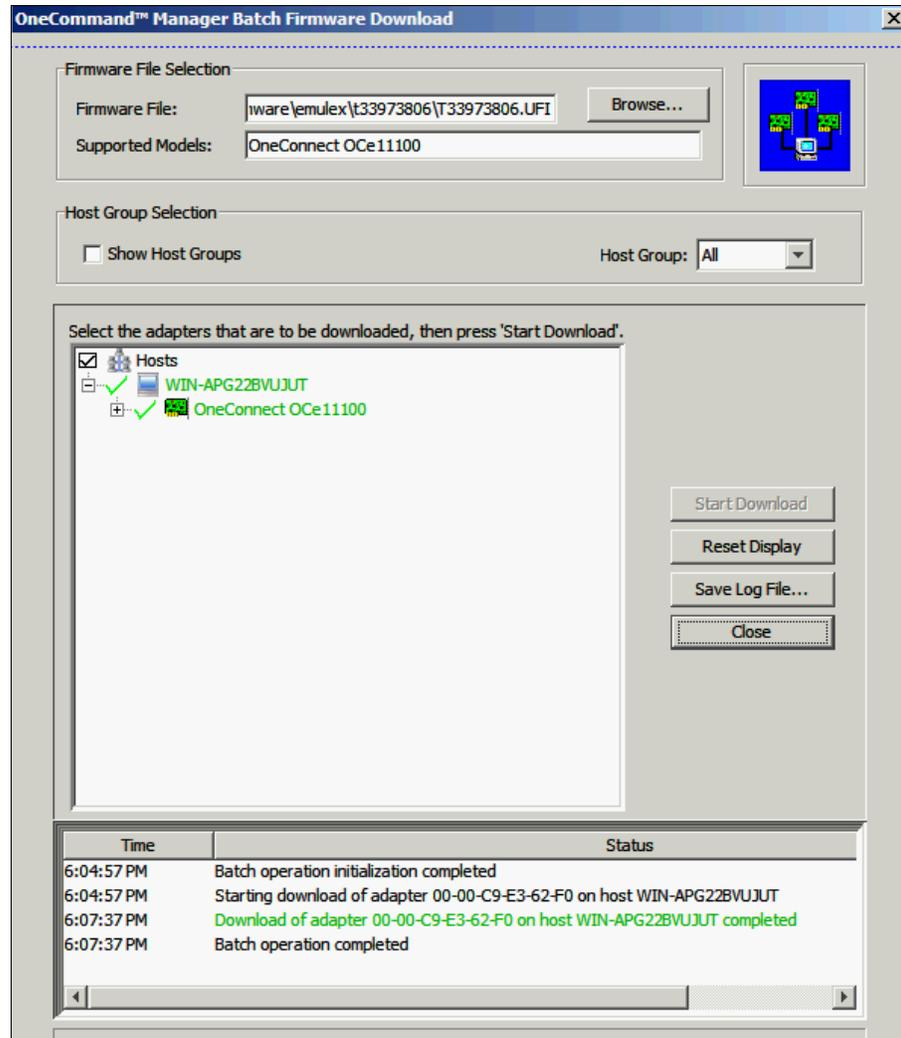

Figure 10-105 OneCommand Manager Batch Firmware Download window
9. Again in the OneCommand Manager Batch Firmware Download window (Figure 10-105), click **Close**.